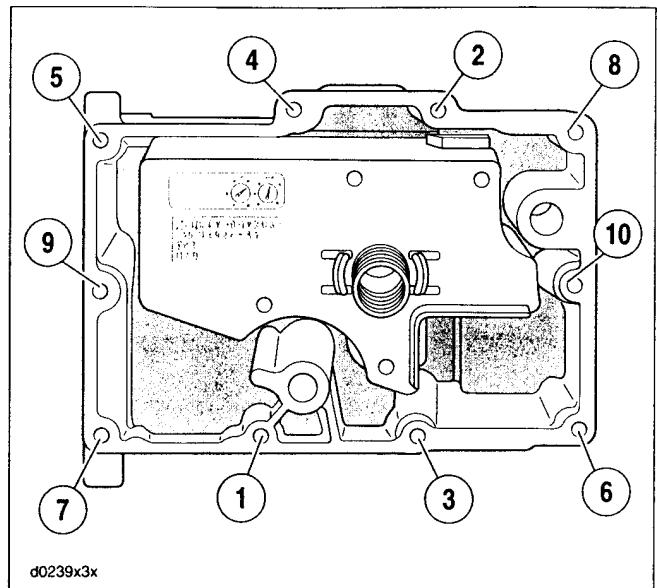

Figure 3-167. Oil Pan Torque Sequence
4. Position gasket and oil pan on transmission housing and install with ten screws (8). Tighten to 84-108 in-lbs (9.5-12.2 Nm) following sequence shown in Figure 3-167.